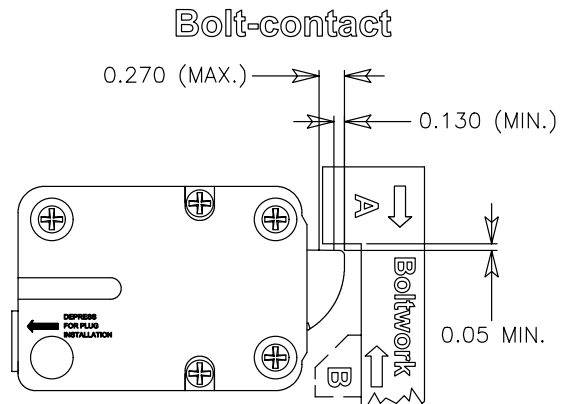

Figure 5
The blocking part "A" (Figure 5) of the boltwork should exert force across the entire width of the lock bolt while opening. But, in the locked position the boltwork MUST NOT place pressure on the lock bolt. This could cause the lock to jam.
**NOTE:** In case of boltwork construction where two blocking parts are moving opposite one another, the one facing the round side of the lock bolt "B" should be cut off to avoid jamming of lock bolt (Figure 5).